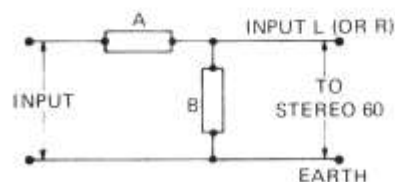

Fig 3.8.1
These are three basic methods of feeding to the Stereo 60 a) Via a 1M or 2M2 resistor (A in fig. 3.8.1) to a flat input, when resistor B is chosen to suit the cartridge's output as follows:
b) Loading with a capacitor. In this case the cartridge is fed direct to a flat input and the capacitor fitted in place of network B (fig. 3.8.1.)